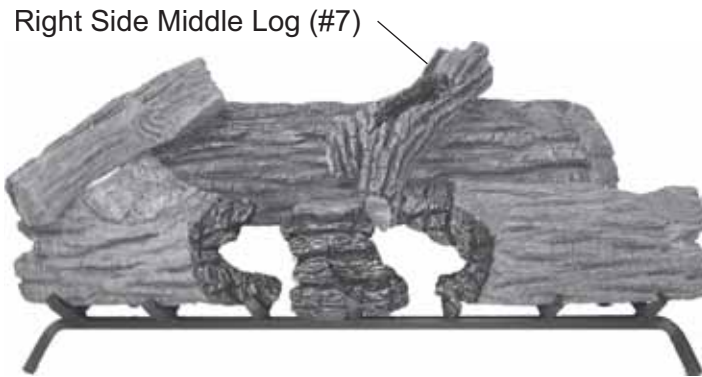

Figure 41 - Installing Right Side Middle Log (#7)
7. Install right side middle log #7. *See Figure 41.*